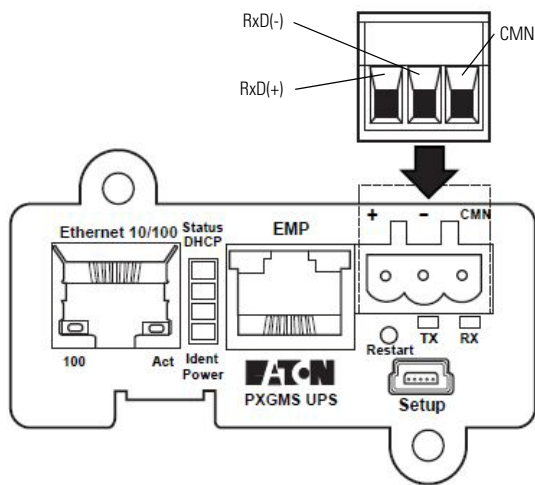

Figure 42. RS-485 Port
- RS-485 communication through an isolated Modbus interface (see Figure 42)
1. Remove the detachable plug from the 3-pin terminal connector (see Figure 42 on page 56).